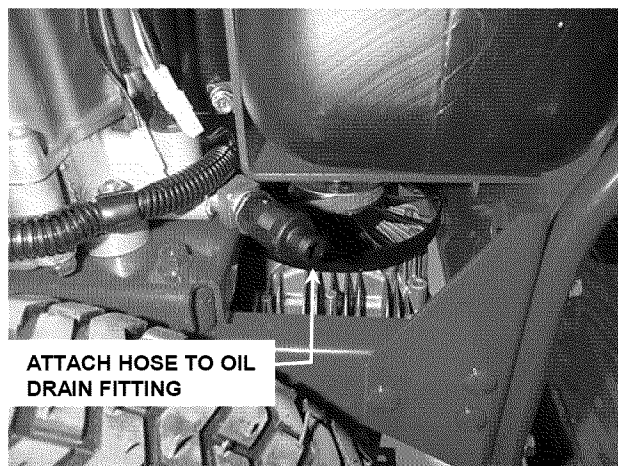

FIGURE 3.1
1. Locate oil drain on engine. Attach hose (supplied with machine) to fitting. See Figure 3.1.